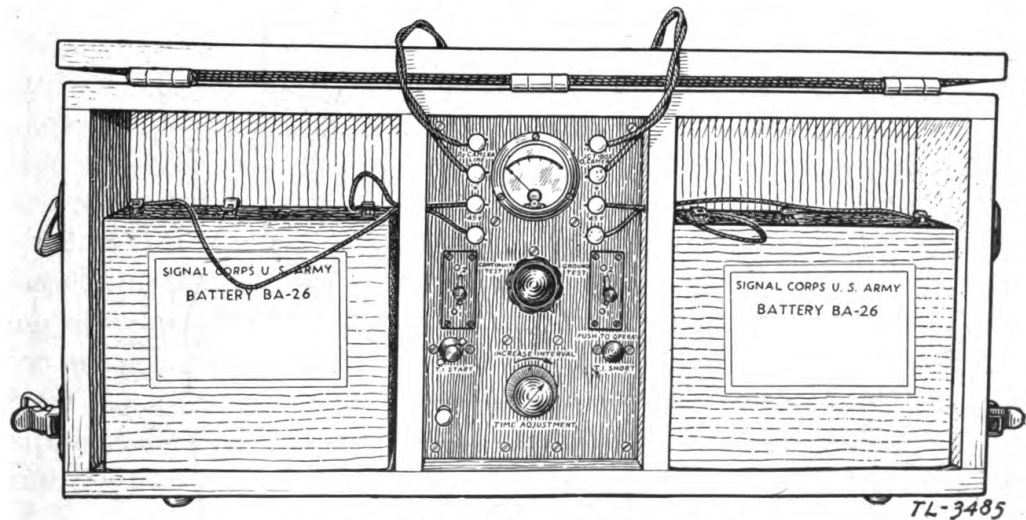

FIGURE 7.—Time interval device PH-103.
5. **Time interval device PH-103.**—This time interval device (fig. 7) is permanently mounted in its carrying case. Receiving power for operation from two batteries BA-26, it supplies direct current pulses at a rate of one per second to operate the relays in the time interval multiplier and the theodolites.